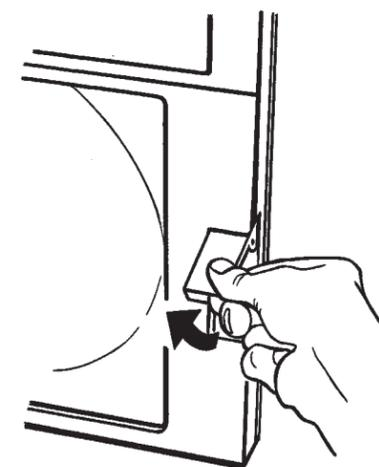
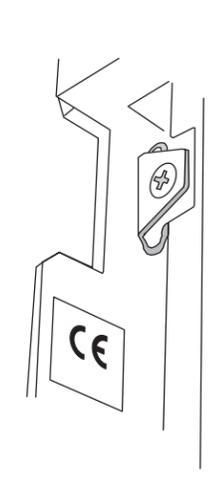
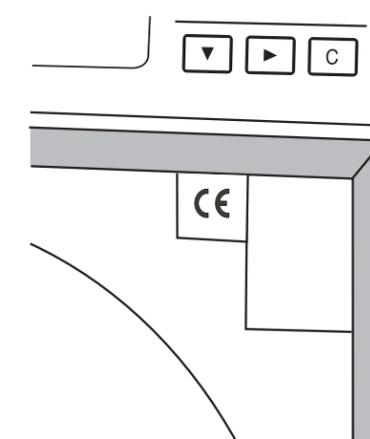

Figure 1.1a
Figure 1.1b
Figure 1.1c
The hardware configuration of the recorder depends on whether it is certified as being CE compliant or not. The easiest way of telling is to open the door of the recorder (figure 1.1a) and to look for the CE label, which may be in one of two places according to recorder version. Figure 1.1b shows the CE mark located on the outside of the right hand side wall of the platen, close to the serial number label, (which also includes (CE) as a part of the serial number). Figure 1.1c shows the CE mark located near the top right-hand corner of the platen. The three figures are not to the same scale as one another.